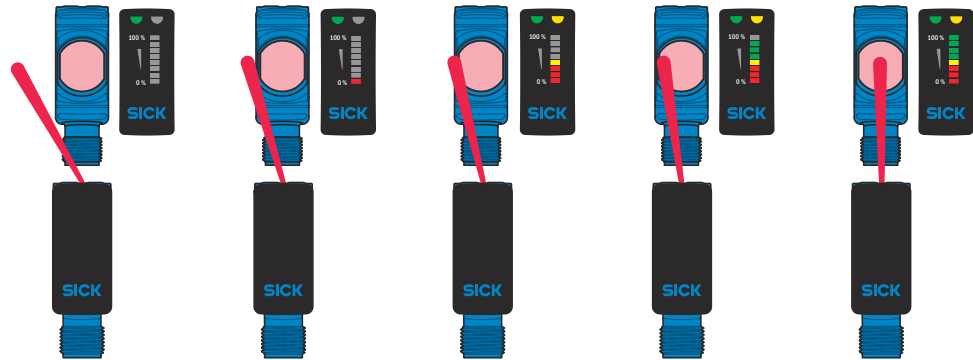
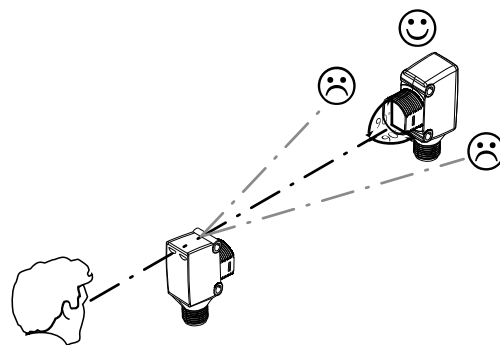

Figure 16: Signal strength light bar during alignment
Figure 17: Alignment
**Red light:** Align the sender with the receiver. Select the position so that the red emitted light beam hits the receiver. Tip: The signal strength light bar on the rear of the sensor will help to ensure correct alignment. Use white paper or a reflector as an alignment aid. The sender must have a clear view of the receiver, with no object in the path of the beam [see figure 17]. You must ensure that the optical openings (front screen) of the sensors are completely clear.
**Infra red light:** Align the sender with the receiver. Select the position so that the infrared light (not visible) hits the receiver. Use the signal strength light bar on the rear of the sensor to determine the correct alignment. See figure 17 and figure 16. The sender must have a clear view of the receiver, with no object in the path of the beam. You must ensure that the optical openings (front screen) of the sensors are completely clear. Optimized alignment can be achieved and verified by using the signal strength light bar located on the back cover of the sensor. The LEDs on the light bar will illuminate corresponding to the strength of signal received by the sensor. When no or only red LEDs are illuminated, the sensor is receiving no or too little signal to switch the output. The first yellow LED will illuminate at the minimum switching threshold and the green LEDs will continue to illuminate as the received signal increases [see figure 16].